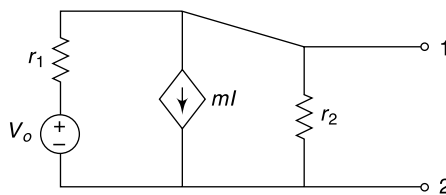

Fig. 4.189
28. In the network shown in Fig. 4.189 show that the internal impedance of the network when looked into it through terminals 1-2 is